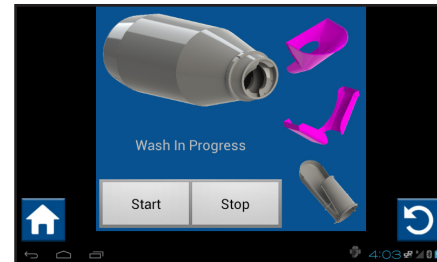

Figure 116
4. Select up to two different components of the Mixer to wash at a time (Figure 116). **NOTE:** Only two components can be washed at the same time.